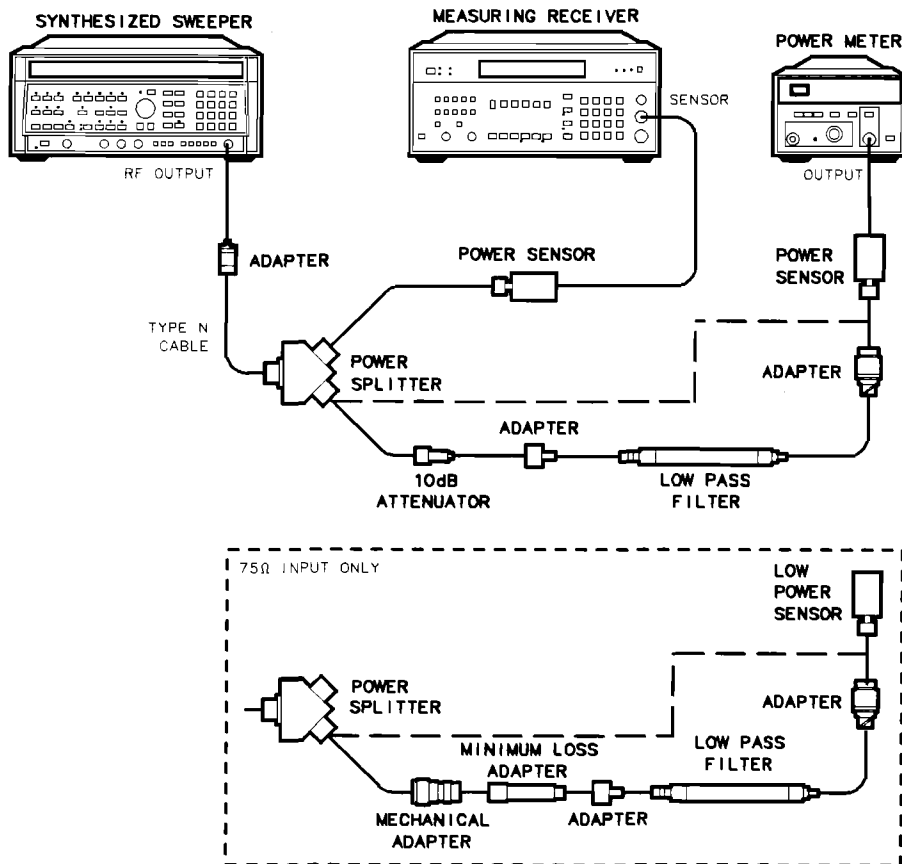

Figure 2-24. LPF Characterization
4. Connect the equipment as shown in Figure 2-24. Connect the low-power power sensor directly to the power splitter (bypass the LPF, attenuator, and adapters). Wait for the power sensor to settle before proceeding with the next step.
7. Connect the LPF, attenuator and adapters as shown in Figure 2-24.